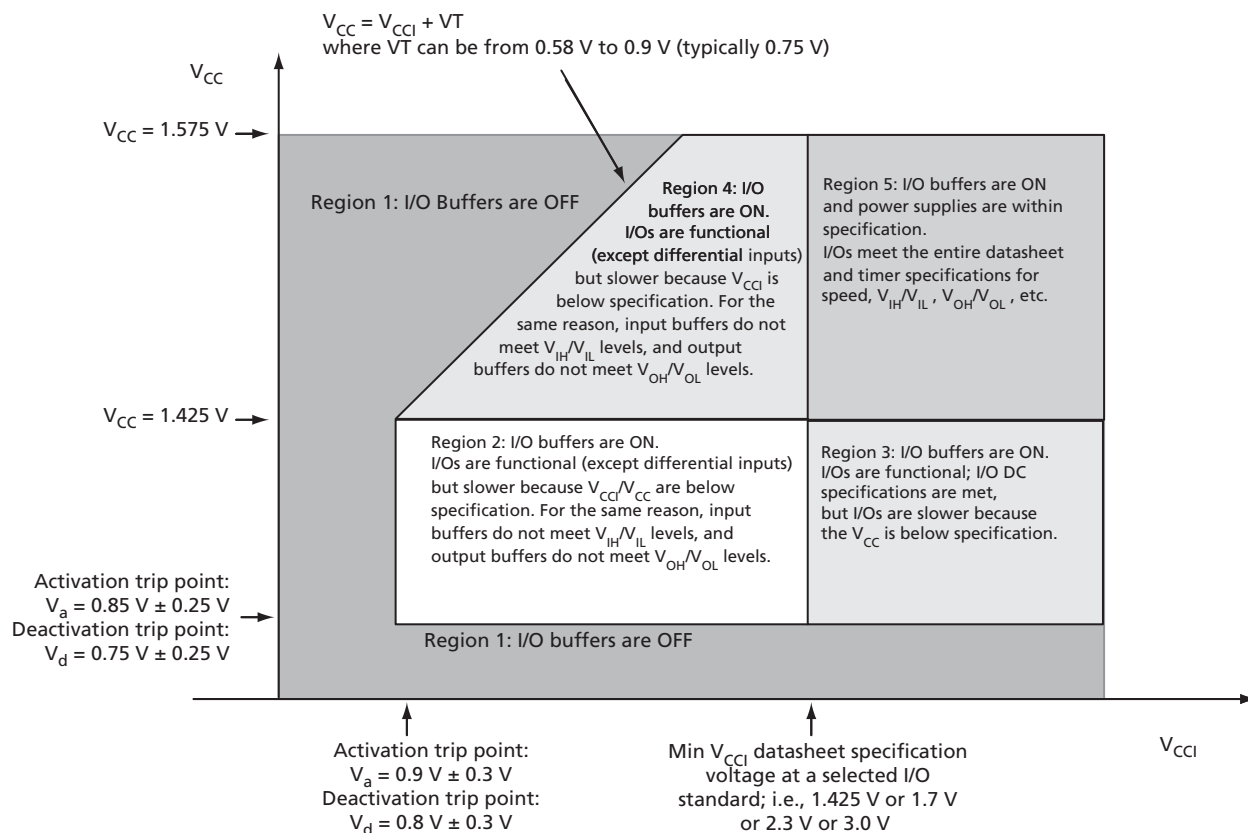
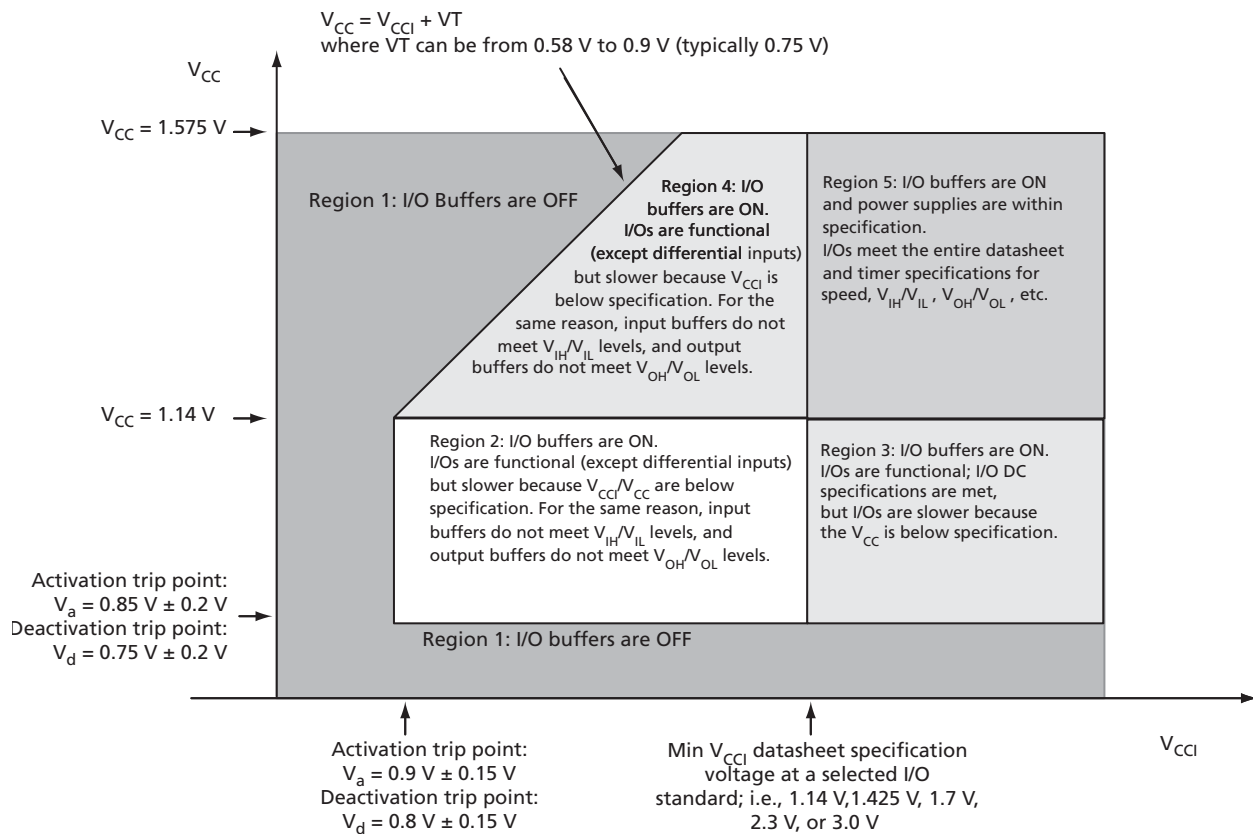

Figure 2-1 • V5 – I/O State as a Function of  $V_{CC1}$  and  $V_{CC}$  Voltage Levels
Figure 2-2 • V2 Devices – I/O State as a Function of  $V_{CCI}$  and  $V_{CC}$  Voltage Levels
Sophisticated power-up management circuitry is designed into every IGLOOe device. These circuits ensure easy transition from the powered-off state to the powered-up state of the device. The many different supplies can power up in any sequence with minimized current spikes or surges. In addition, the I/O will be in a known state through the power-up sequence. The basic principle is shown in Figure 2-1 on page 2-4 and Figure 2-2 on page 2-5.
1. VCC and VCCI are above the minimum specified trip points (Figure 2-1 on page 2-4 and Figure 2-2 on page 2-5).
Actel recommends using monotonic power supplies or voltage regulators to ensure proper powerup behavior. Power ramp-up should be monotonic at least until  $V_{CC}$  and  $V_{CCPLX}$  exceed brownout activation levels. The  $V_{CC}$  activation level is specified as 1.1 V worst-case (see Figure 2-1 and Figure 2-2 on page 2-5 for more details).